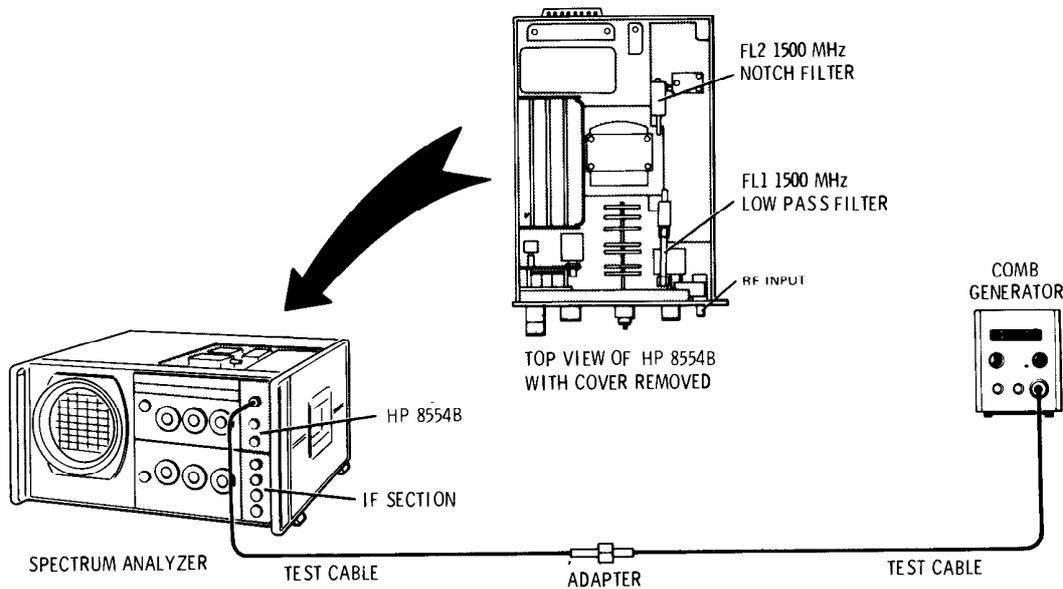

Figure 5-9. 1500 MHz Notch Filter and Low Pass Filter Test Setup
3. Connect equipment as shown in Figure 5-9 and make the following control settings: